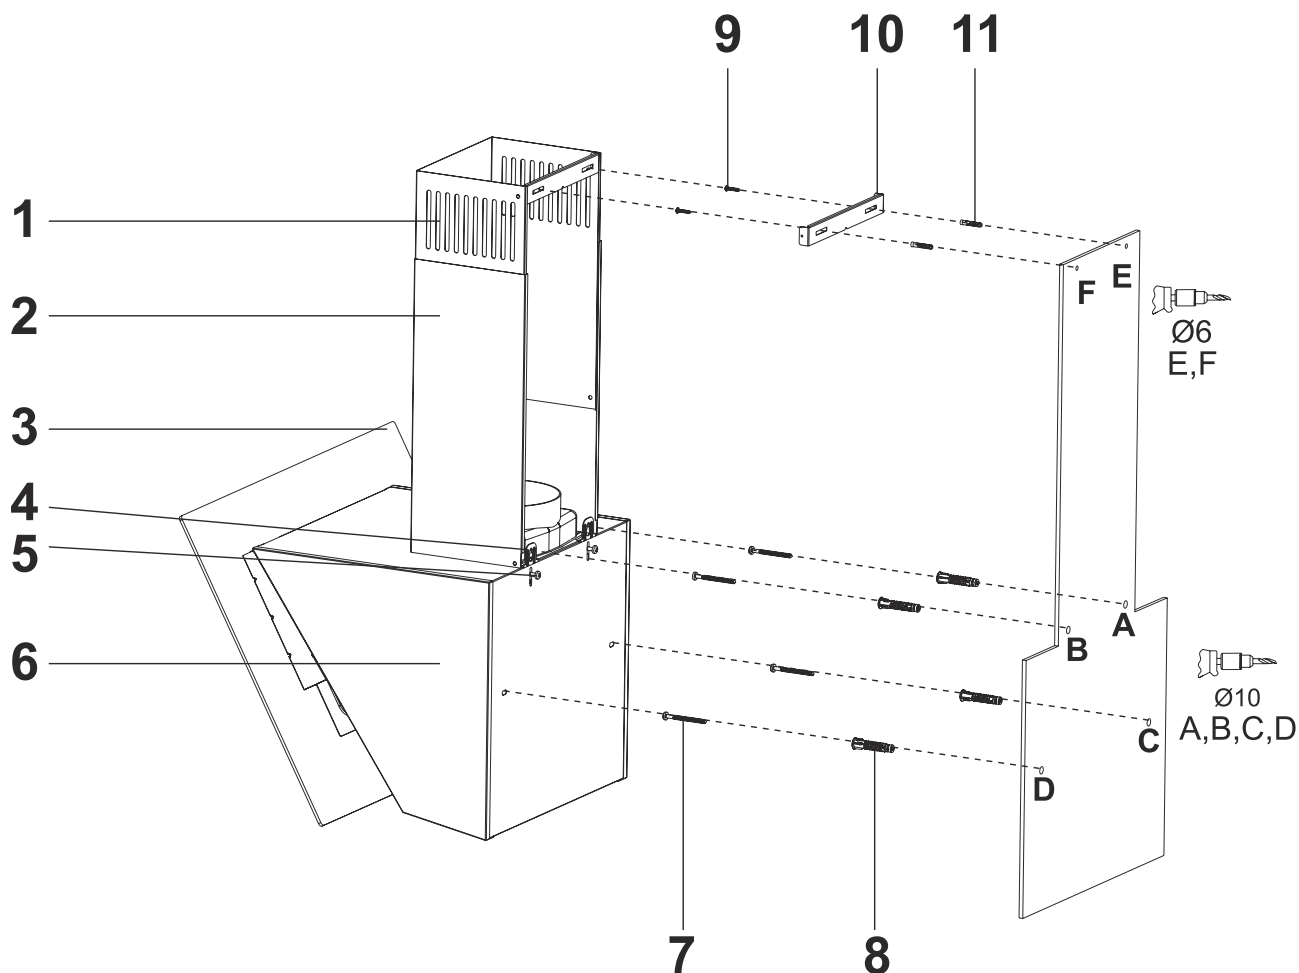

Fig. 12
- Loosening the product hanging plate fixing screw pull the hanging plates upwards, and fix the hanging plated by re-tightening the fixing screw (Fig. 12).
- Assemble the cooker hood with the help of the assembly scheme (Fig. 12).
- Affix the assembly pattern on the wall, at the specified height (See the minimum and maximum distances intended for the worktop, in the assembly pattern). Perforate points A, B, C and D (Fig. 12).
- Insert Ø10mm wall plugs into the holes drilled as A, B, C, and D and screw down the screws at the points A + B, in such a way as to remain 5mm space between the screw head and the wall (Fig. 12).
- The cooker hood is set in the midst, and then the flue connecting plate is directly affixed to the wall, under the cover or points E and F are marked after performing a measurement (Fig. 12)
- Drill points E and F with Ø6mm drill bit, and insert Ø6mm and plastic dowels. Insert the flue connection plate with 3.9x22 screws (Fig. 12).